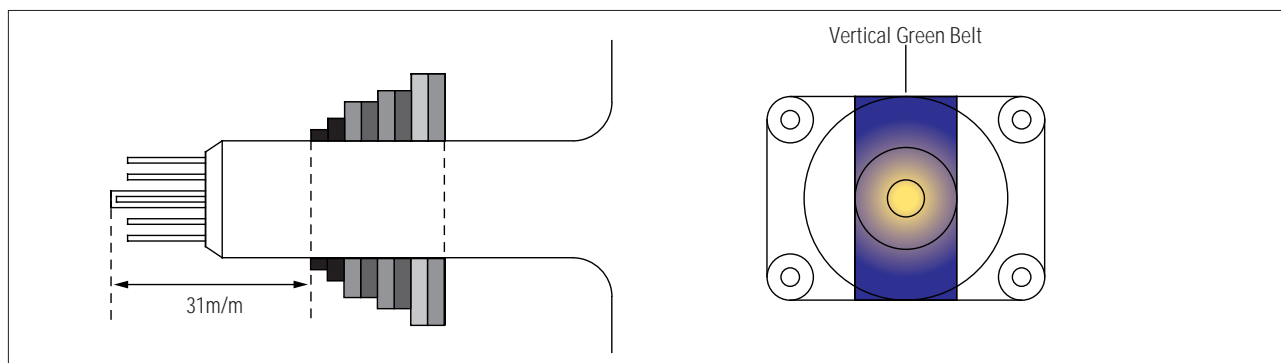

Fig. 4-3 Center Convergence Adjustment
7. Since the 4-pole magnets and 6-pole magnets interact, the dot movement is complex (Fig. 4-3).